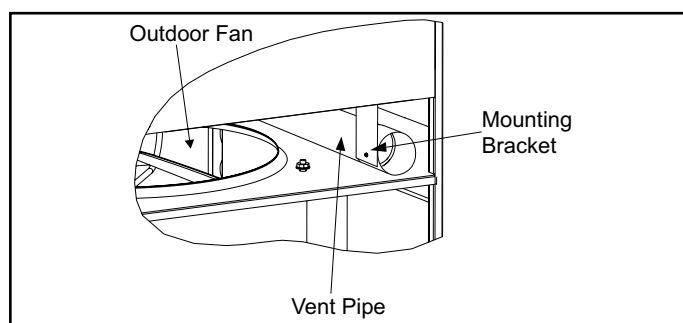

Figure 5. Locating Vent Pipe and Extension
2. The vent pipe and vent pipe extension is located to the right of the outdoor fan (see Figure 5).